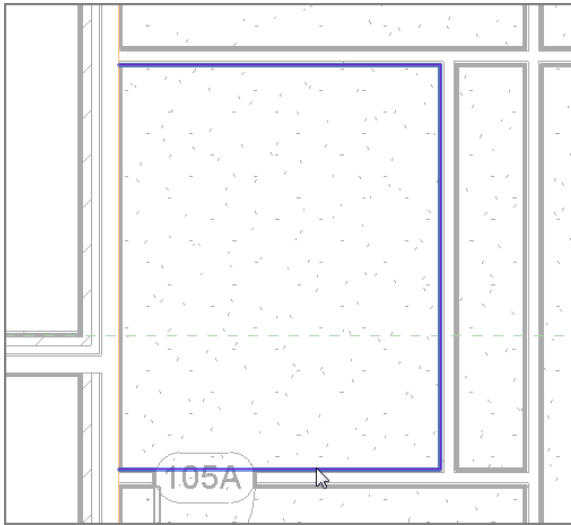

FIGURE 6.42 : Placing the three split lines around the perimeter of the lavatory
6. Draw the three lines shown in Figure 6.42 (you may have to trim and extend the lines).